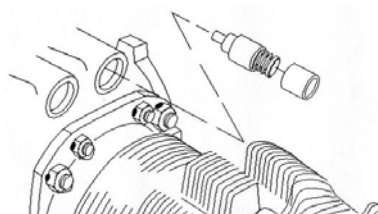

Figure 19
- (1) For each of the two shroud tubes, install the plunger assembly and hydraulic socket in the tappet body in the crankcase (Figure 19).
- (2) Apply engine oil mixture (15% pre-lubricant (STP or equivalent) and 85% SAE No. 50 mineral base aviation grade lubricating oil) to all four of the shroud tube oil seals, two for each shroud tube.